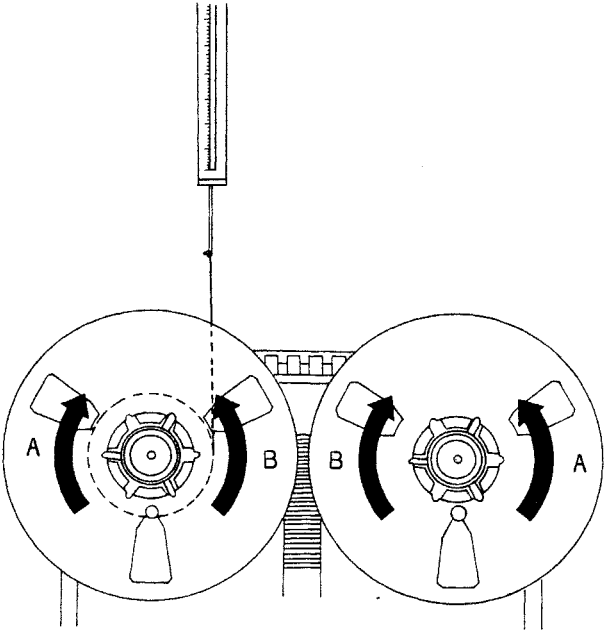

Figure 6-2 Brake Measurement
3. Insert the hook of a 500 g (0-16 ounce) spring scale through the loop and hold the spring scale upright as shown in Figure 6-2.
4. Pull on the scale slowly to make the reel rotate counterclockwise (direction "B" in Figure 6-2). While being sure the cord does not rub against either flange, note the scale reading. The reading should meet the value listed on Table 6-1.
6. Repeat steps 3 and 4 to make the reel rotate clockwise (direction "A" in Figure 6-2).